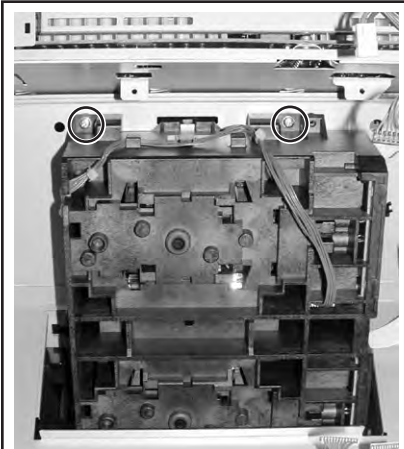

Figure 13. Removing two screws (circled) from the top of the laser/scanner assembly.
12. With the printer seated normally, remove two screws, circled in Figure 13, at the top of the laser/scanner assembly.